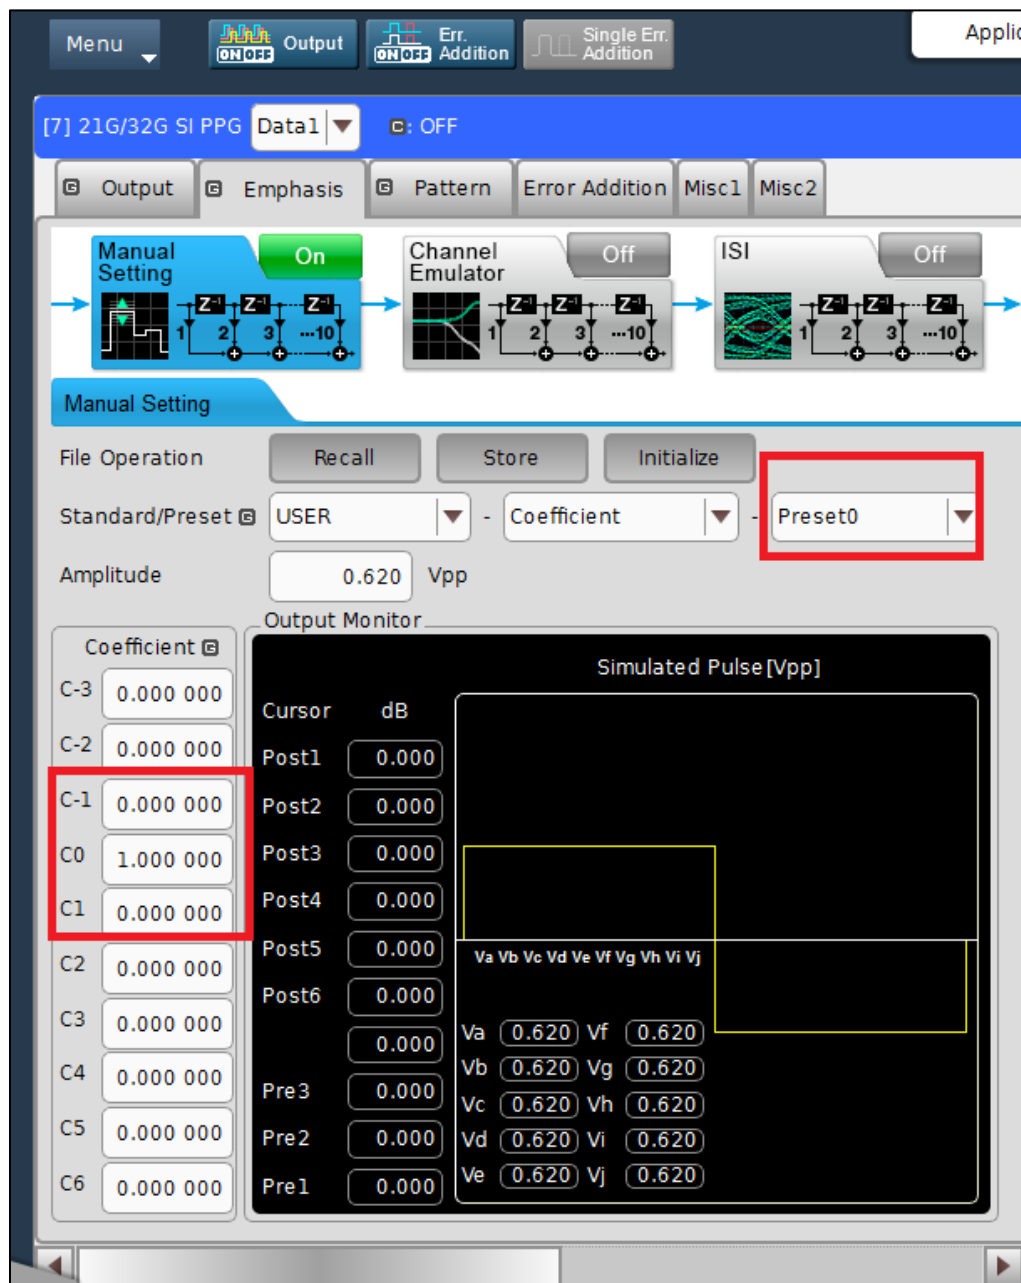

FIGURE 51. 4TAP EMPHASIS CH1 INTERFACE
2. In 4Tap Emphasis Ch1 Menu, create 15 Presets with coefficients which match the Table in the Thunderbolt Interconnect Specification. See Figure 51 below.